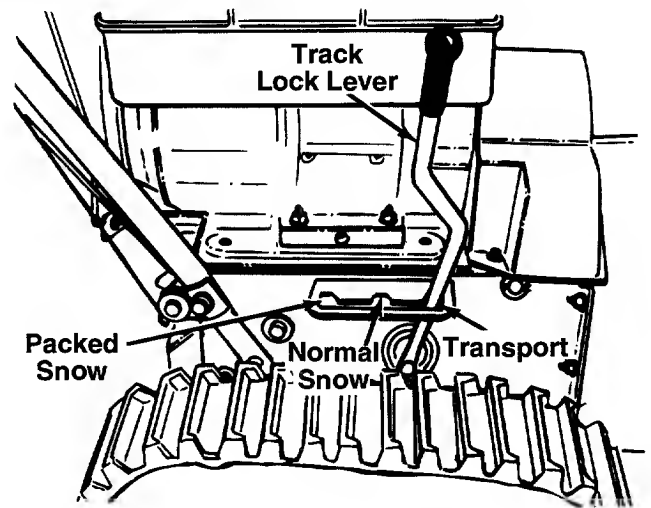

FIGURE 13.
The track lock lever is located on the right side of the snow thrower and is used to select the position of the housing and the method of track operation. See figure 13. Move the lever to the right, then forward or backward to one of the three positions.
- Set the track lock lever in one of the three positions: transport, normal snow or packed snow. See figure 13.